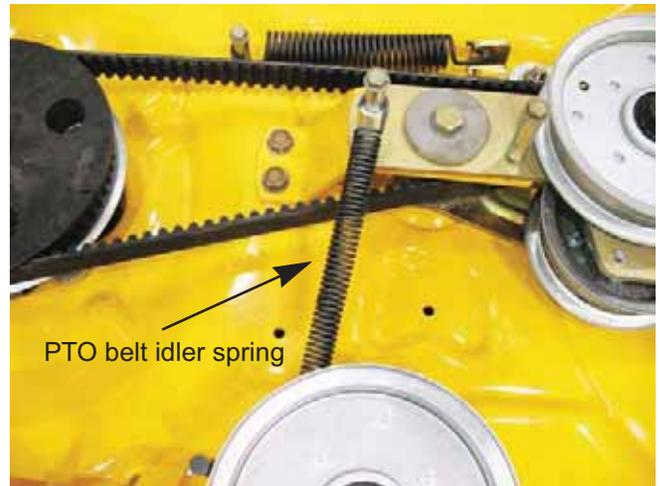

Figure 8.9
3. Remove the PTO belt idler spring. See Figure 8.9.